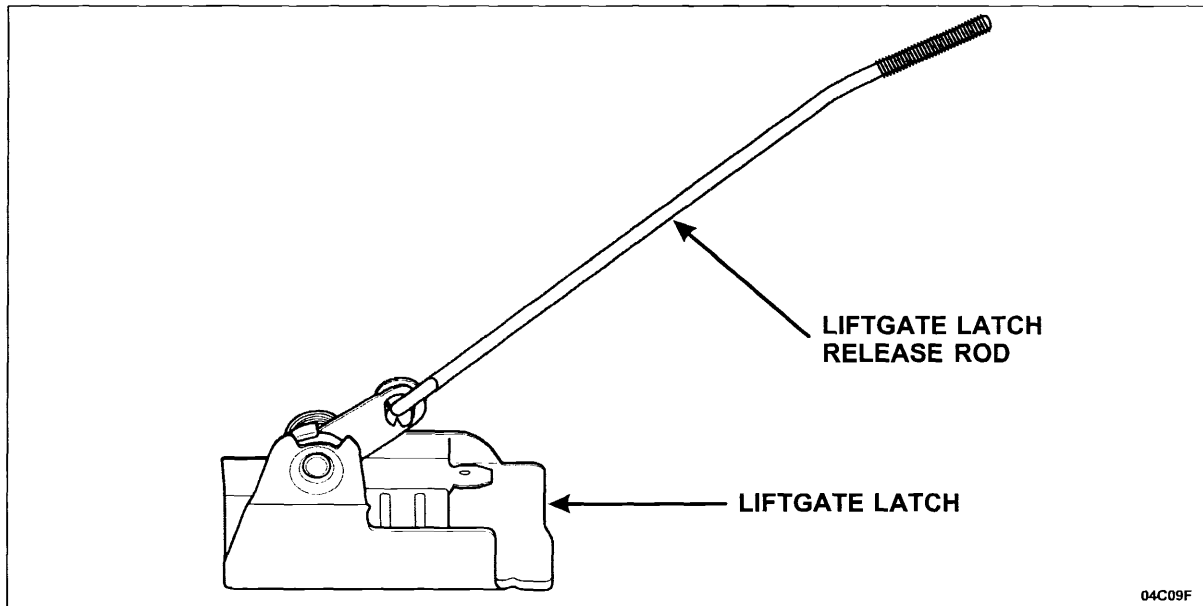

FIGURE 6
3. Remove the four (4) screws and remove the liftgate trim panel.
5. Remove the three (3) liftgate latch bolts and retain.
7. Remove the liftgate latch release rod and install the *new* rod. See Figure 6.